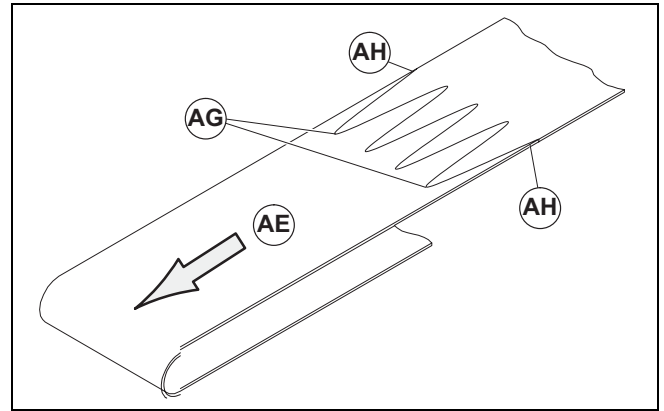

Figure 14
1. Orient replacement belt so belt splice leading fingers (Figure 14, item AG) point in direction of belt travel (AE) and that outside fingers (AH) are positioned as shown.